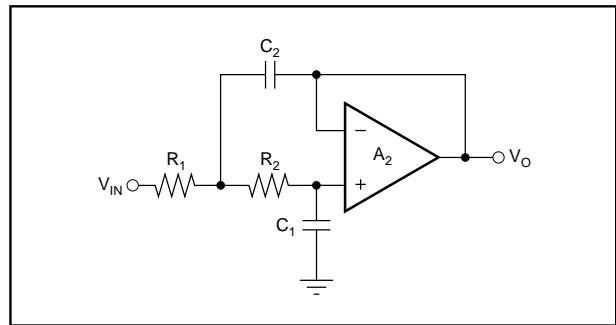

FIGURE 8. Unity-Gain Sallen-Key Complex Pole-Pair Section. (Gain = 1)
- Sallen-Key—shown in Figures 8 and 9.
Figure 8 circuit,  $K = 1.0$